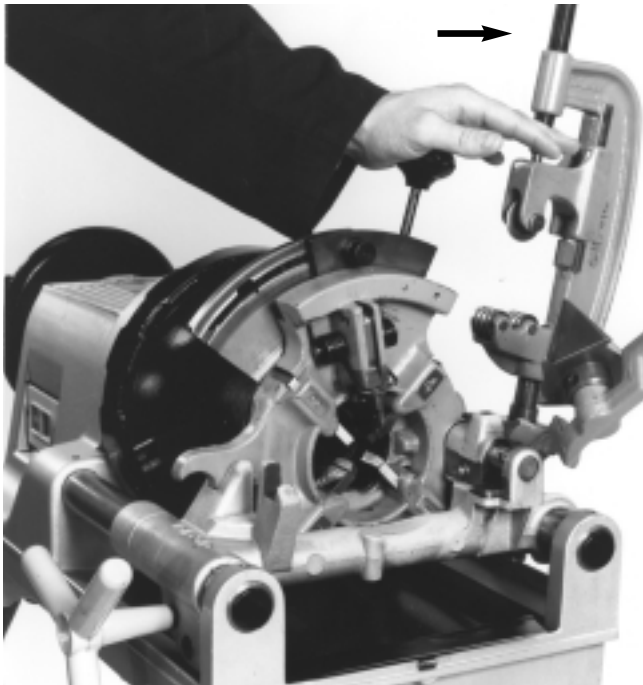

Figure 8 – Cocking the Receding Die Head
3. With die head in working position, firmly push on cocking lever to set die head. (Figure 8)